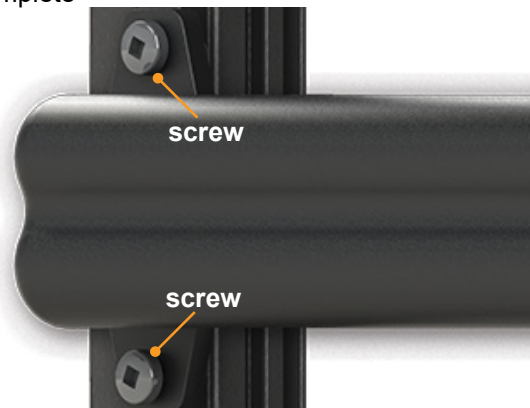

Fig.17
3. Using two of the supplied screws secure the mount bracket to the screen door. (Fig.17). The assembly is now complete